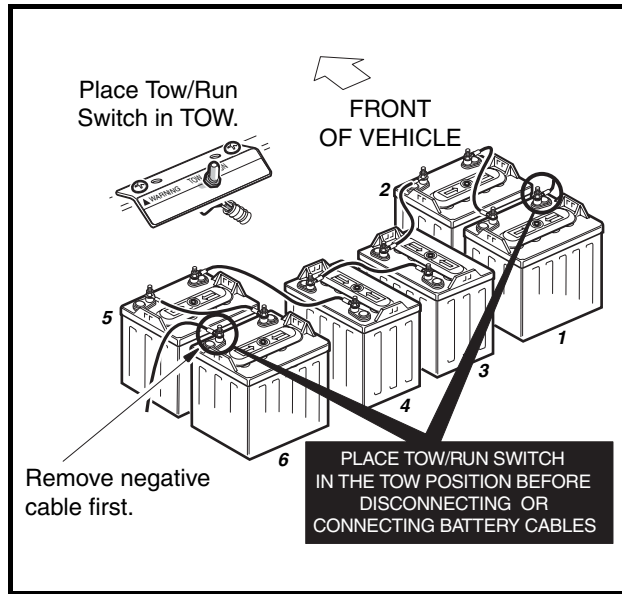
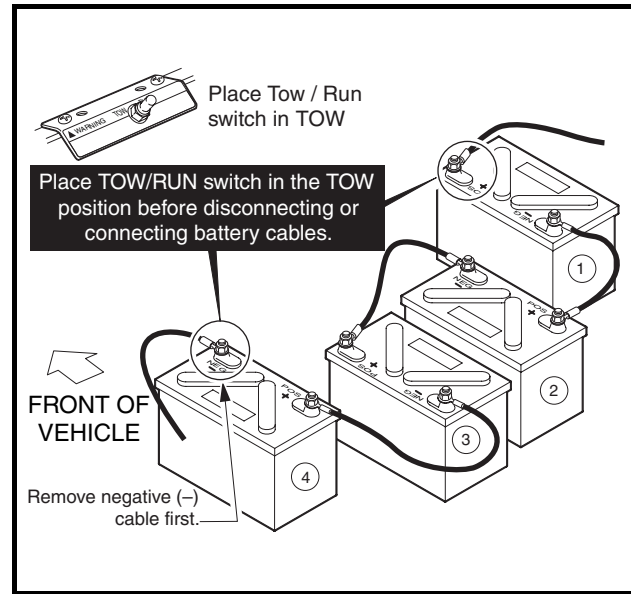

Figure 14-1 Turf1/Carryall1 IQ System Battery Configuration
Figure 14-2 DS and DS Villager 4 IQ System Battery Configuration
5. Install batteries in the proper orientation (**Figure 14-1, Page 14-2**) or (**Figure 14-2, Page 14-2**). Install battery hold-downs. The hold-downs should be tight enough so batteries do not move while vehicle is in motion, but not so tight as to crack or buckle battery case. Tighten to 40 in-lb (4.5 N·m), alternating between hold-down bolts.
6. Install wires in proper sequence (**Figure 14-1, Page 14-2**) or (**Figure 14-2, Page 14-2**). Install black wire to negative post of battery no. 6 last (Turf 1/Carryall 1) or no. 4 last (DS and DS Villager 4). Tighten all connections to 110 in-lb (12.4 N·m). Coat all terminals with Battery Terminal Protector Spray (CCI P/N 1014305) to minimize future corrosion.
When the batteries are fully charged, disconnect the charger DC plug. Wait 20 to 30 seconds and reconnect the DC plug to restart the charger. After 5 minutes, use a multimeter to check and record the voltage of the battery set as well as the individual batteries. Set the multimeter to 200 volts DC. Place the red (+) probe on the positive (+) post of battery no. 1 and the black (-) probe on the negative (-) post of battery no. 6 (**Figure 14-1, Page 14-2**). Record reading. Then set multimeter to 20 volts DC and place the red (+) probe on the positive (+) post and the black (-) probe at the negative (-) post of each battery. Record the readings.